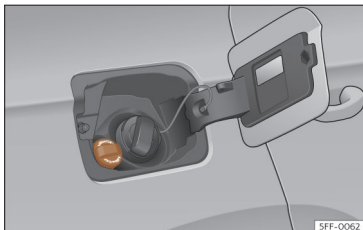

Fig. 206 AdBlue tank cap®.
- Open the tank flap >>> Fig. 206.
- Turn the SCR tank cap anti-clockwise >>> Fig. 206.